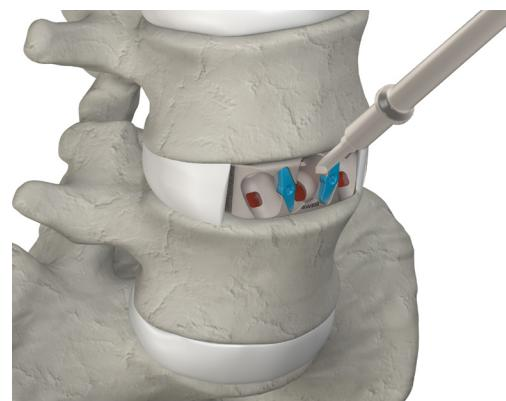

Figure 21
- ▲ Insert the distal end of the awl through the screw hole in the implant and apply axial force to the handle to puncture the cortical bone of the vertebral body (Fig. 21).